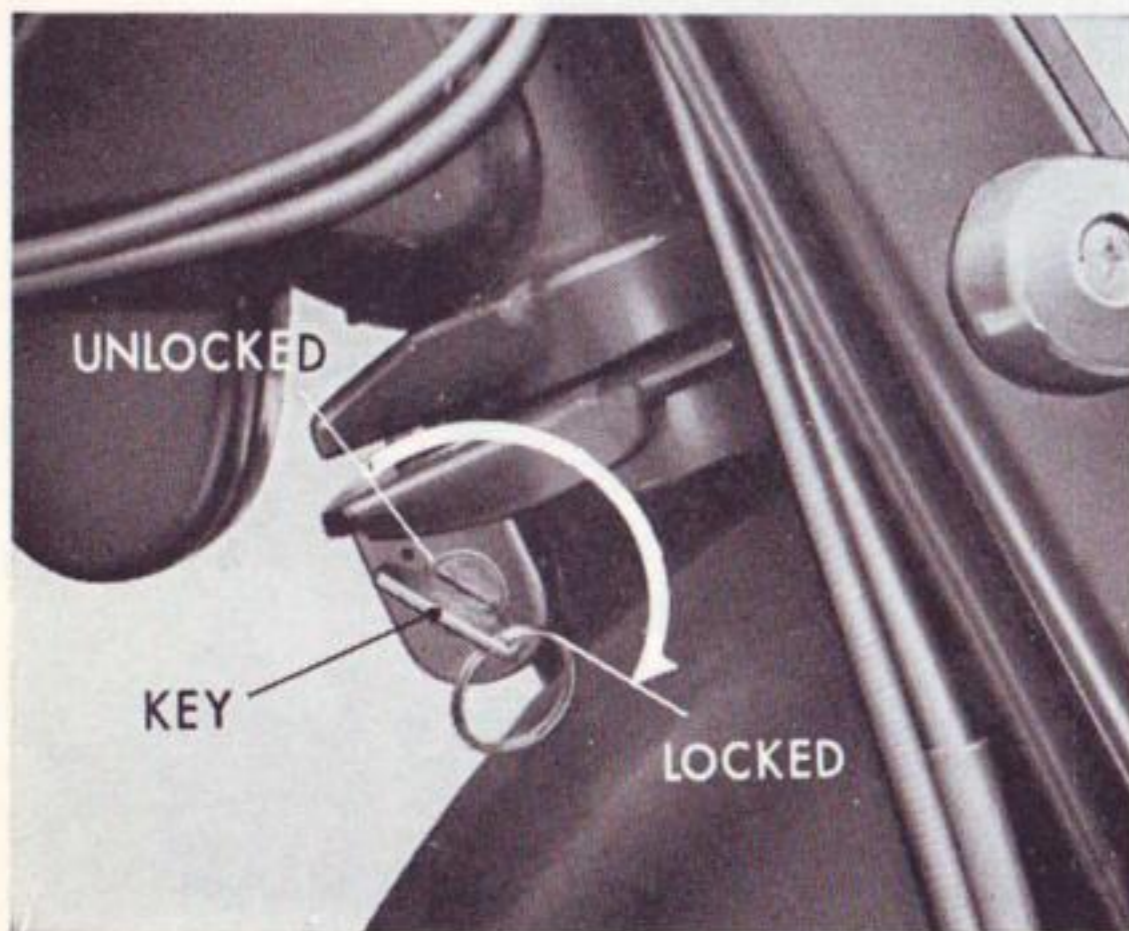

Fig. 6
3. Lock the steering lock (Fig. 6)